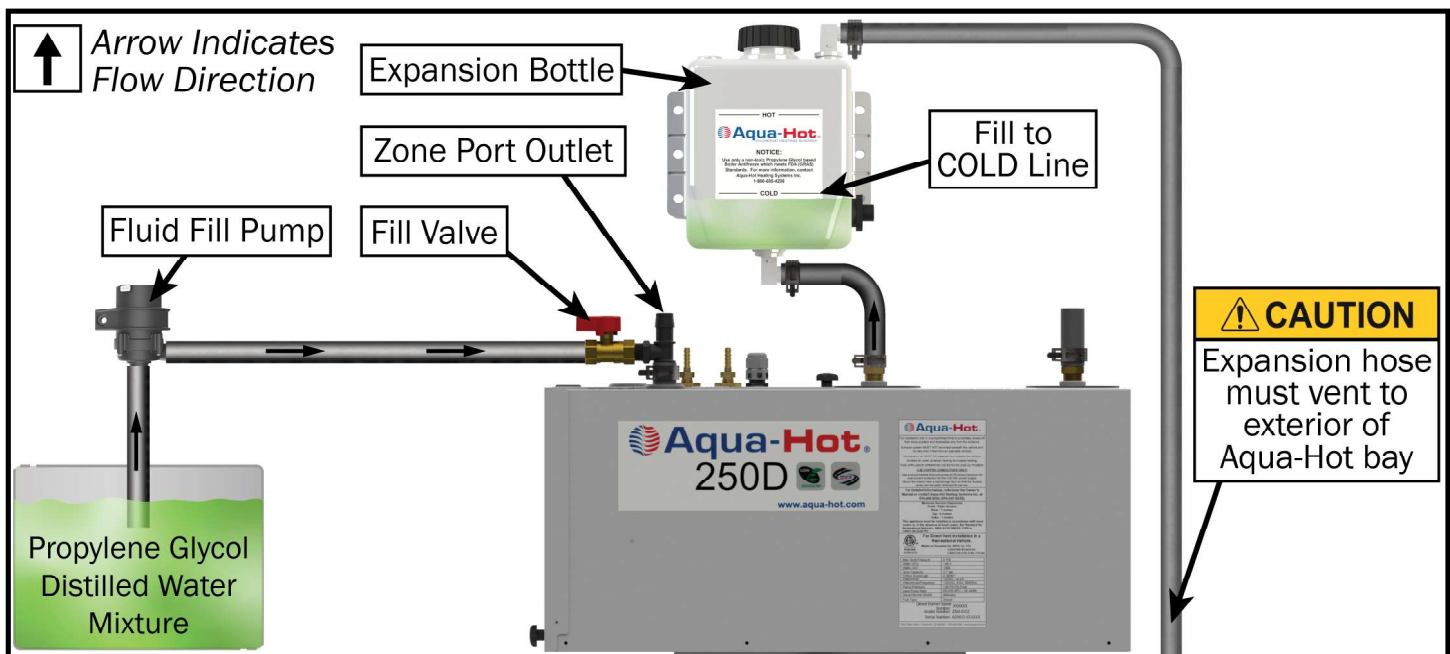

Figure 145
1. Locate the fill valve at the zone port outlet (Figure 145).